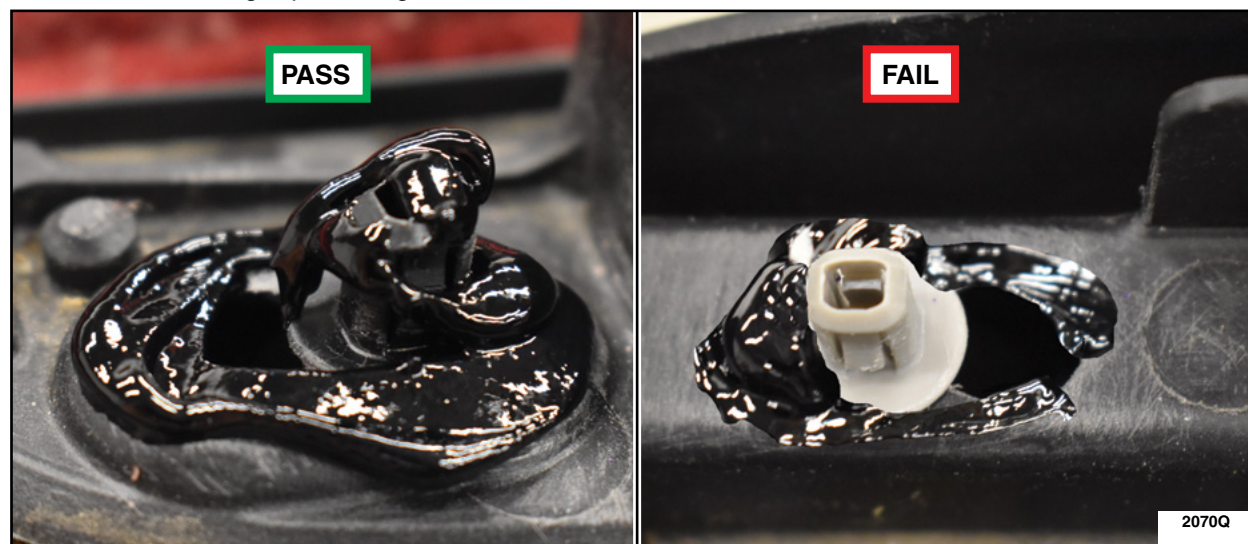

FIGURE 12
12. Starting from the rear of the vehicle, apply the adhesive around the roof rail contact pad, around and over the retaining clip. See Figure 12.